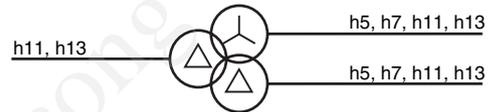

Fig. M19 : A Dyd transformer blocks propagation of the 5th and 7th harmonics to the upstream network
- A Dyd connection suppresses 5th and 7th harmonics (see Fig. M19)